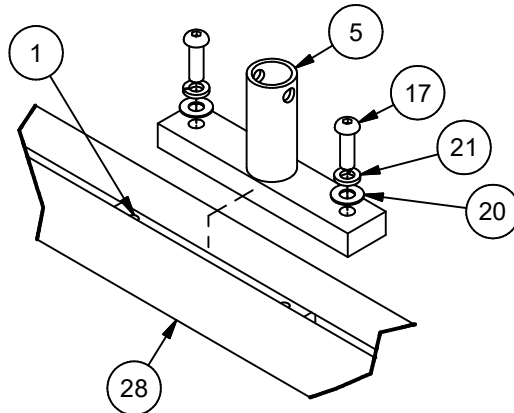

FIGURE D-3
- Install the 6 center hubs on the 7" nut bars in upper and lower crossbars, loosely install 3/8" button head screws, lock washers, and standard washers as shown in Figure D-3.